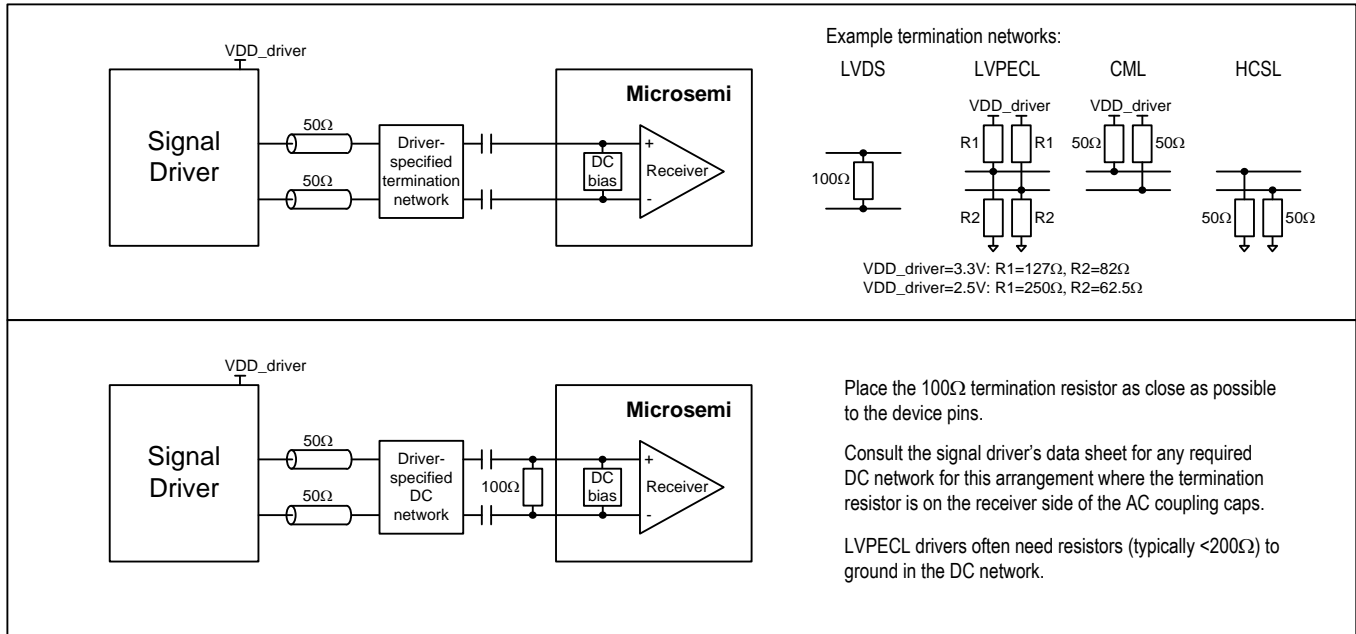

Figure 21 - Example External Components for Differential Input Signals
- Note 3: Differential signals.** The differential inputs can easily be interfaced to neighboring ICs driving LVDS, LVPECL, CML, HCSL, HSTL or other differential signal formats using a few external passive components. In general, Microsemi recommends terminating the signal with the termination/load recommended in the neighboring component's data sheet and then AC-coupling the signal into the ICxP/ICxN pins. See Figure 21 for details. To connect a differential signal to IC3, AC-couple one side of the signal to IC3P and AC-couple the other side to VSS. For DC-coupling, treat the input as 1.8V CML.